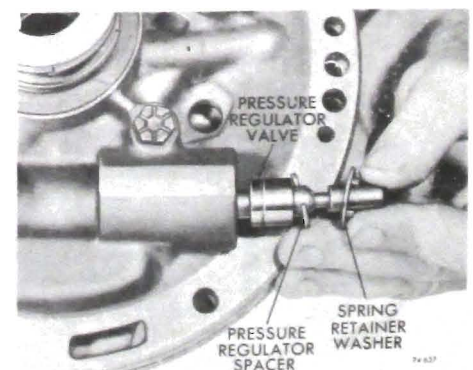

Figure 76-637
2. Install pressure regulator spring retainer, spacer(s) if used, and spring into the pressure regulator bore. See Figure 76-637.